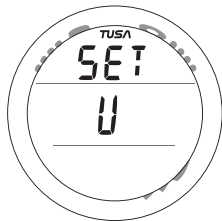

Fig. 43 - SET U
- > Depressing the A and S buttons simultaneously for 6 seconds while the NORM (or GAUG) Surface Main screen is displayed, will access the Set U screen (Fig. 43).